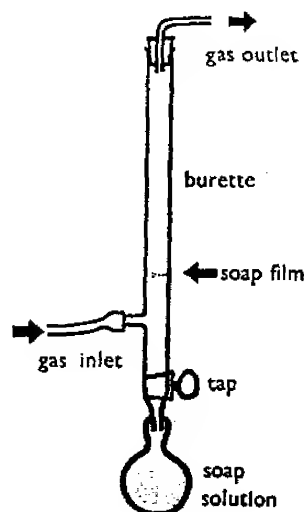

Fig. 11
from a burette as shown in Fig. 11. A soap film is blown into the tube above the gas inlet by squeezing the rubber syringe. If the burette tap is then closed and the gas turned on, the time taken for the soap film to move through (say) 50 cm³ can be measured and the flow rate calculated. If 50 cm³ of gas enters the tube in 10 seconds how would you express the rate of flow? (3)